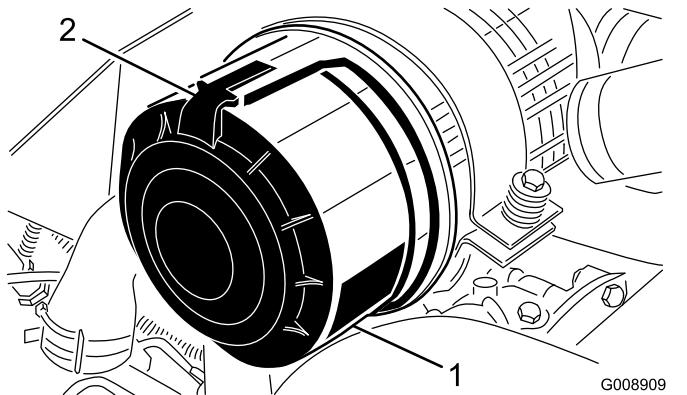

Figure 79
1. Release the latches securing the air-cleaner cover to the air-cleaner body (Figure 79).